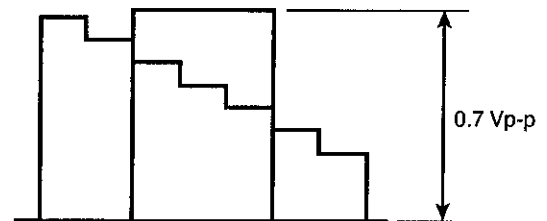

Figure 10.
4. Confirm a reading of  $0.7 \text{ Vp-p} \pm .05$ . See Figure 10.